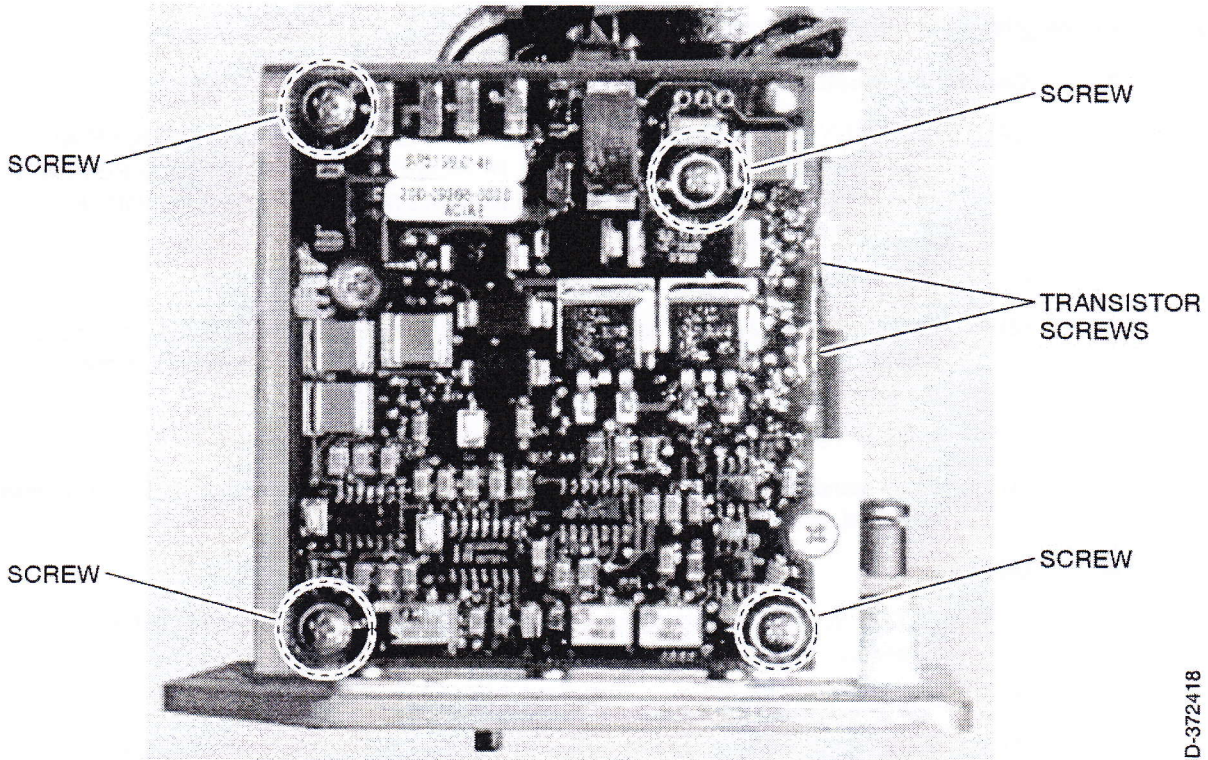

Figure 1. (Sheet 1 of 1) Roll Servo Board Screws and Connectors
- (2) Remove the roll servo board screws and connectors, taking special care to note the orientation of both J1 and J2 connectors (IPL Figure 6-2). Refer to Figure 1.